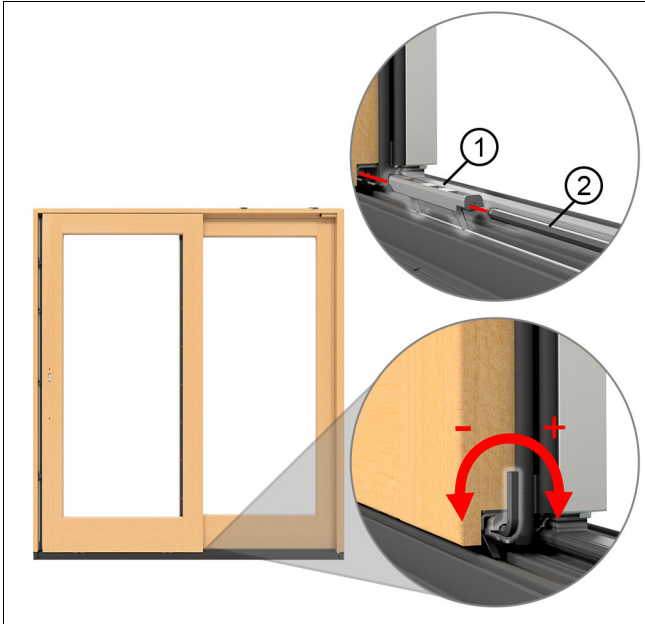

Figure 44
2. Adjust the panel height to obtain even reveals. Insert the plastic roller adjustment guide in the end of the panel. This will guide the Allen wrench into the adjustment screw. Turn the Allen wrench clockwise to raise the roller and counterclockwise to lower the panel. See Figure 44.